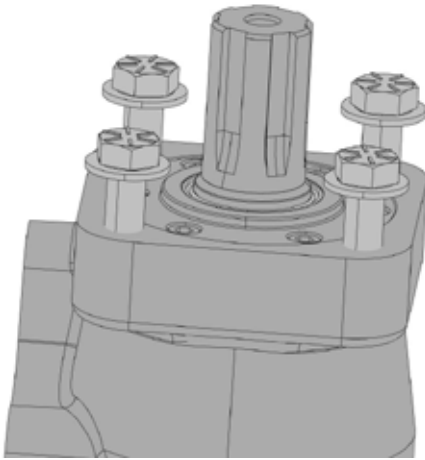

Figure 10
6. Apply one (1) drop of Loctite 263 on a bolt (PN 1136593). Do not apply more than one drop. Excessive Loctite in the holes of the motor will not allow the bolts to install completely.
7. Install a washer (PN 0120277) on the bolt and screw the bolt into the mounting hole of a motor (Figure 10).
9. Repeat Steps 6-8 on the remaining three (3) bolts of this motor and again for the other motor and its (4) bolts.